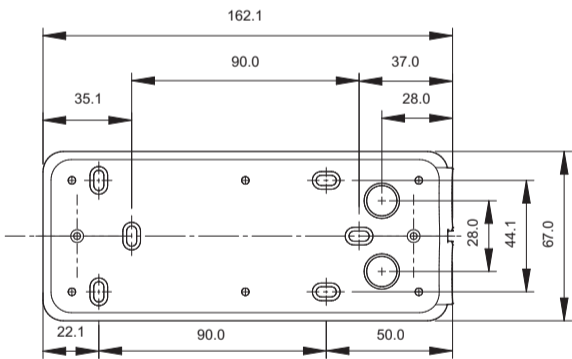

Fig. 3 - Pierce rubber grommet
5. Pierce the rubber grommets with a small screwdriver and thread through the cable. To ensure IP44 ingress protection a tight seal must exist between the rubber grommets and the cable sheath. – Fig. 3